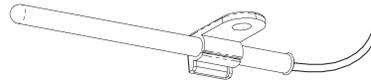
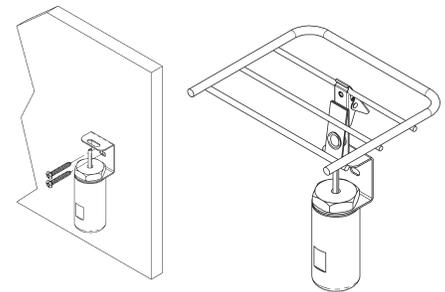
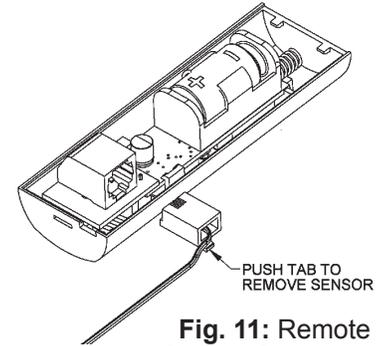

Fig. 6: External Probe Mounting with a Flexible Probe Bracket (BA/FPB)
Fig. 7: External Hanging Bracket Sensor Mounting
Fig. 11: Remote Sensor Connection
7. Mount the External Probe using a Flexible Probe Bracket (Fig. 6) or use the clip or screw hole on the Hanging Bracket Sensor (Fig. 7)
6. For remote sensors, string the wire through the freezer door and place the sensor in the best location to measure the required temperature. Sensor removal from the transmitter may be necessary. See Fig. 11.
7. Mount the External Probe using a Flexible Probe Bracket (Fig. 6) or use the clip or screw hole on the Hanging Bracket Sensor (Fig. 7). Reconnect the remote sensor if necessary (Fig. 11)
2. An RJ11 connector is located at the bottom of the board. Insert the sensor RJ11 plug (tab down) into the connector until it is fully seated (Fig. 11).